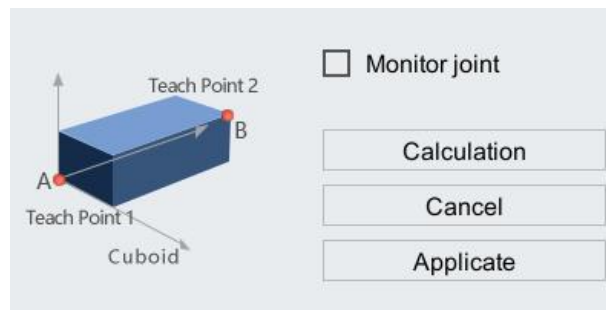
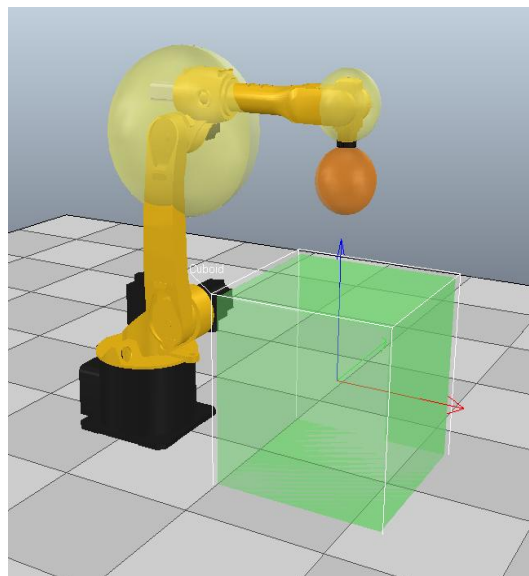

Figure 6-48 Contents of model of cuboid working zone
Figure 6-51 Contents of working condition of cuboid working zone
If you want to uniquely determine the working zone of the cuboid, you need to calculate the two points A and B on the diagonal of the cuboid, as shown in Figure 6-48. The A and B points can be determined through teaching method or manual input method.
Step3. After teaching "Point 1" and "Point 2", click <Calculate> button shown in Figure 6-48 to automatically calculate the coordinates of the points A and B on the diagonal of the cuboid, and click <Applicate> button to complete the zone setting.
Step2. Then click <Applicate> button shown in Figure 6-48 to write the calculated cuboid working zone into the database, and then the setting of the cuboid working zone will be completed. For the contents of the working conditions after setting, please refer to Figure 6-51.